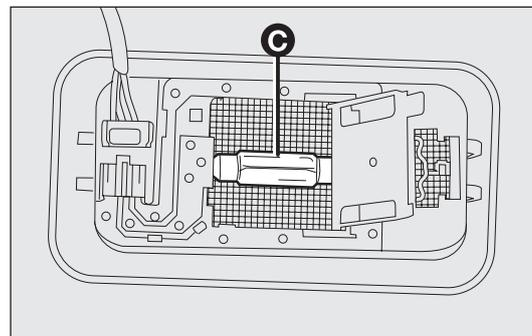

fig. 162
- replace the bulb C-fig. 162 releasing the side contacts, insert the new bulb and make sure that it is correctly clamped between the contacts;